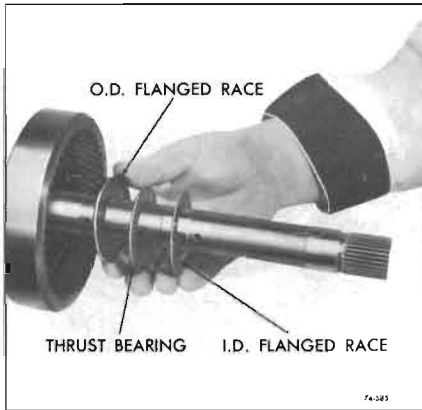

Figure 74-585
3. Install sun gear to internal gear thrust races and bearings against the inner face of the rear internal gear as follows, and retain with petrolatum. See Figure 74-585.